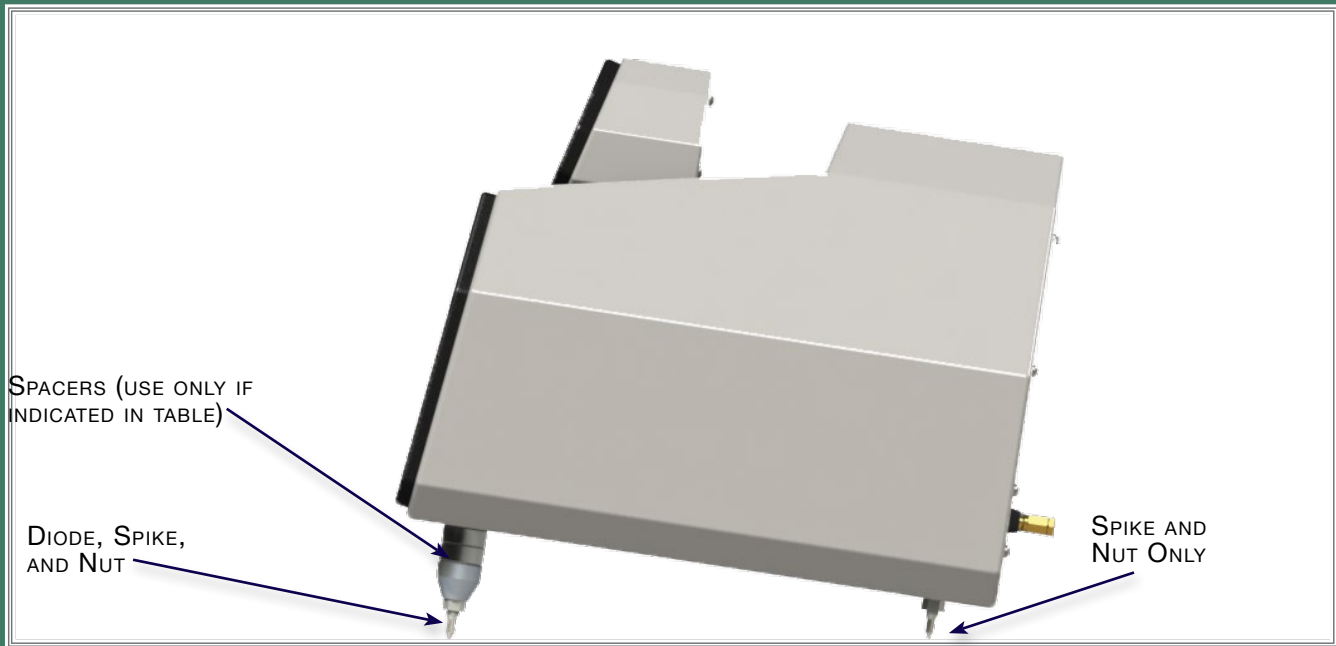

FIGURE 6 – INSTALLING THE CENTER CHANNEL SPIKES
3. Install the spikes as shown in Figure 6 above.